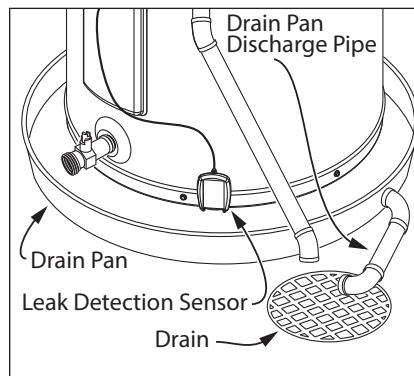

Figure 7 - A suitable drain pan piped to an adequate drain can help protect flooring from leaks and drips.
- Suitable drain pan (Figure 7 on page 8)
- Install a suitable drain pan (available at your local plumbing supplier) under the water heater (Figure 7) to catch condensation or leaks in the piping connections or tank. Most codes require, and we recommend, installing the water heater in a drain pan that is piped to an adequate drain. The drain pan must be at least 2" (50 mm) wider than the diameter of the water heater. Install the drain pan so the water level would be limited to a maximum depth of 1-3/4" (45 mm).
- In a suitable drain pan piped to an adequate floor drain or external to the building (Figure 7).